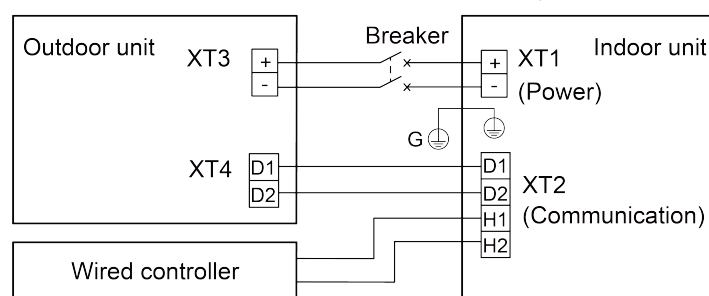

Fig.5.2.1
- (1) Detach the electric box lid.
- (2) Let the power cord pass through the wiring through-holes.
- (3) Connect wires according to Fig. 5.2.1.